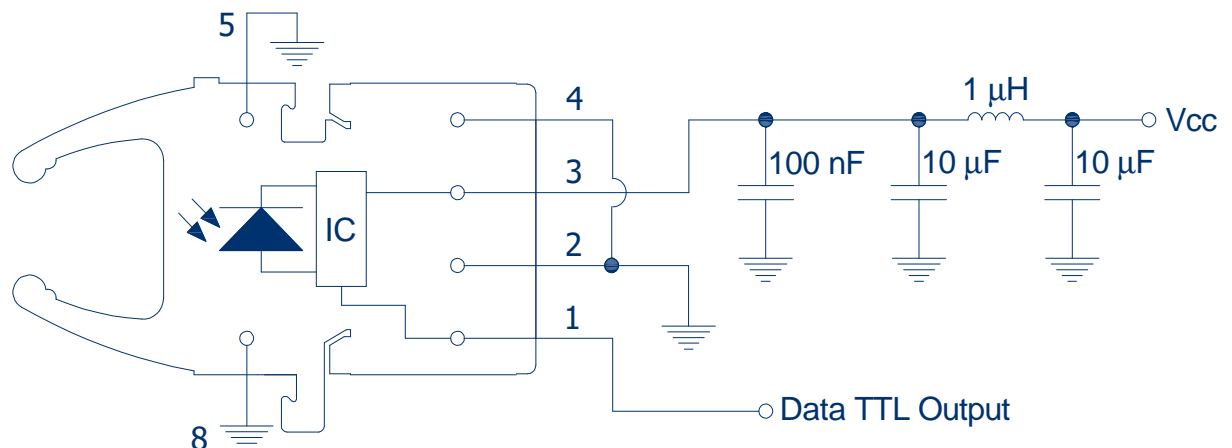

FIGURE 2
- a) Pin 4 is electrically isolated internally. Pin 4 may be externally connected to pin 1 for board layout compatibility with existing designs. Otherwise it is recommended pin 4 be grounded as in Figure 2